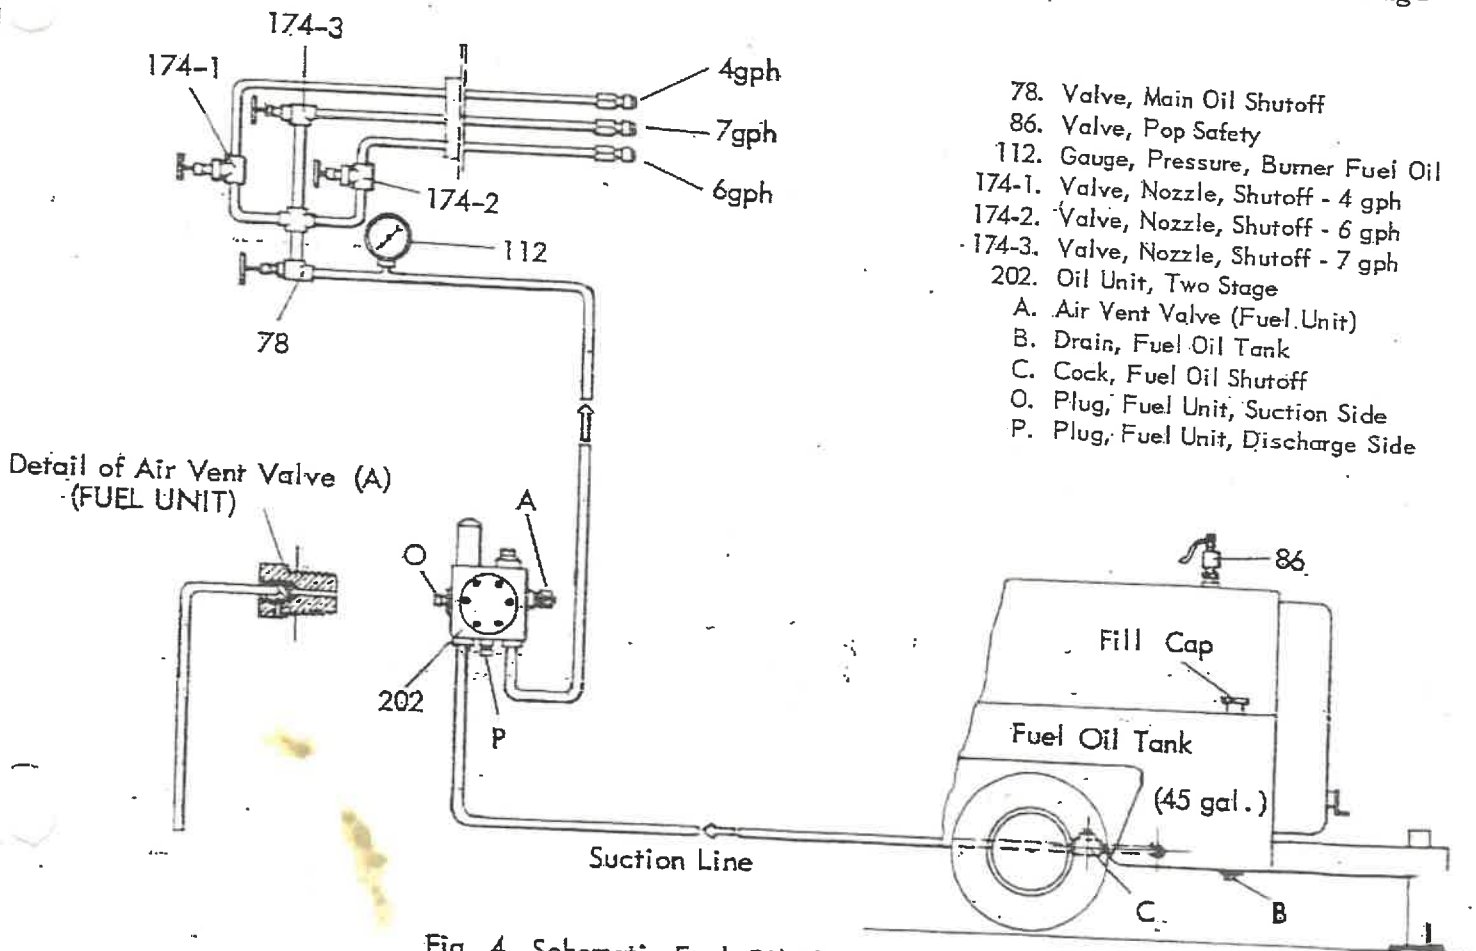

Fig. 4. Schematic Fuel Oil Flow Diagram
This fuel unit pumps in two stages; in the first stage oil is transferred from the tank to the unit and in the second stage the pressure is raised to that required for atomization. The fuel unit also contains a strainer assembly in the suction side and a pressure regulator and nozzle assembly in the discharge side. An air vent valve is furnished in the discharge chamber of pump to bleed pressure from suction line if necessary. (See (A) in Figure 4). The pump discharge pressure is controlled by the built in pressure regulating valve. Port (P) and Port (O) are plugged. Port (O) can be used for connecting a vacuum gauge for test purposes.